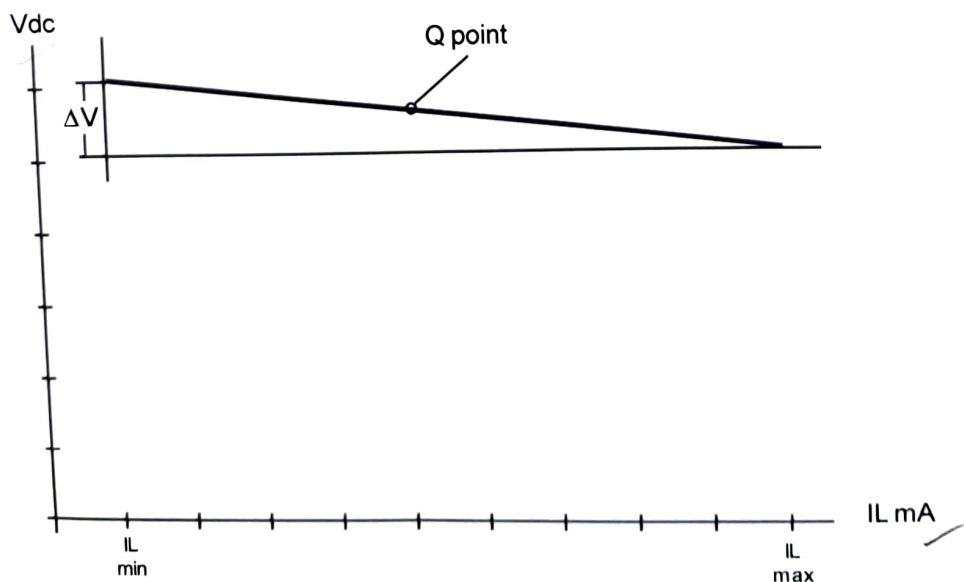

Fig 14 : plot of load line characteristics of power supply
6. Draw a load line curve as shown in fig 14. From curve find out ΔV . Fix an operating point at center of the curve. The change in output voltage for min to max load current is $= \Delta V$